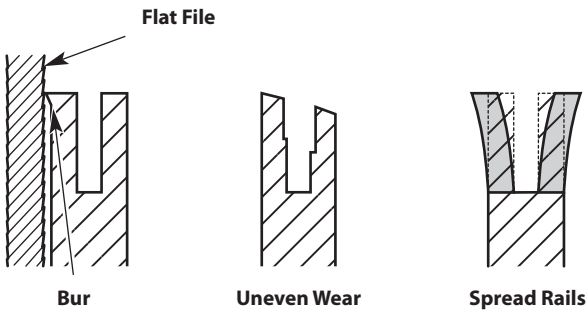

Fig. 25
3. Frequently check the guide bar for damage (Fig. 25). Feathering and burring of the guide bar rails (the ridges on either side of the bar groove) is a normal process of guide bar wear. Such faults should be smoothed with a file as soon as they occur (Fig. 25). A guide bar with the following faults should be replaced: